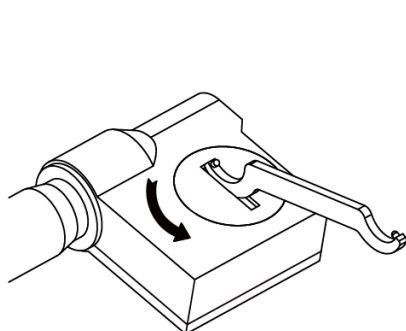

fig. 1
- » Turn the battery cover counterclockwise using the spanner (see fig. 1) and remove it.